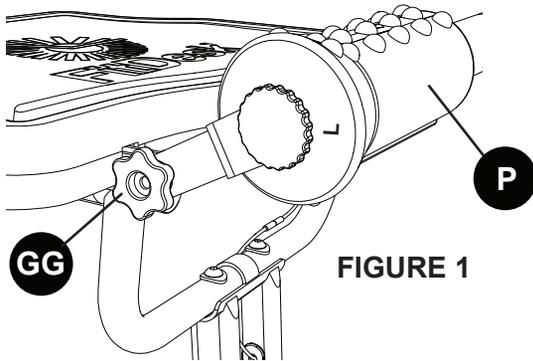

FIGURE 1
To adjust the Massage Bar, (P) loosen the left and right knobs, (GG) then lift or lower to the best position. Tighten the knobs (GG) when done. **Figure 1**